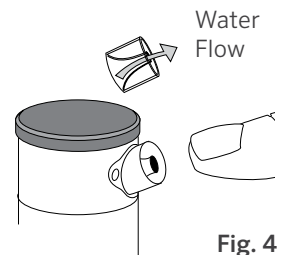

Fig. 4
- 3 Discard nozzle if removed with pliers. Slip the desired nozzle into the nozzle socket. Note that the socket is angled up 25° (see Fig. 4). Tighten the nozzle-retainer/range-adjustment screw.